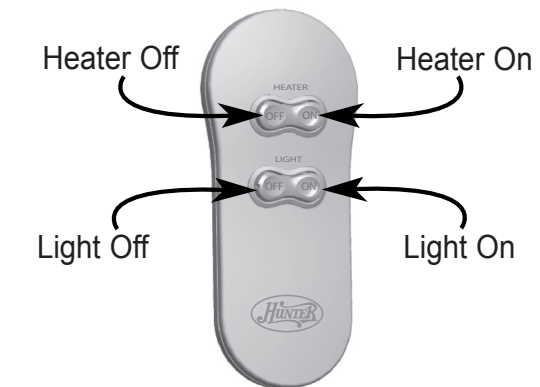

Figure 13 - Transmitter Buttons
- 3) Use the Heater On/Off buttons on the Transmitter to turn the Heater on and off. Use the Light On/Off buttons to turn the light on and off. See Figure 13.